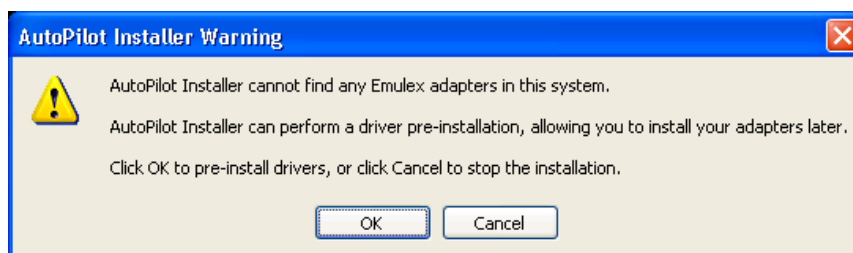

Figure 2-1 AutoPilot Installer Warning (Software-First Installation)
1. Run AutoPilot Installer using one of the two options listed in “Running a Software Installation Interactively” on page 23. The warning in Figure 2-1 on page 25 appears: